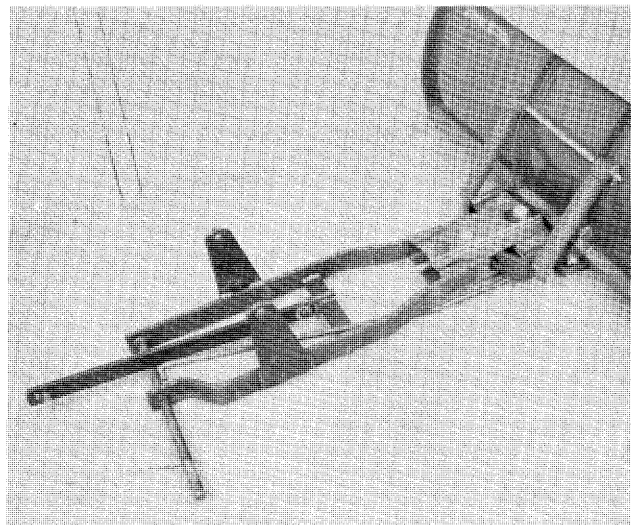

FIGURE 3
4. Assemble the end of the lift bar to the frame lift bracket as shown in figure 3. Secure with a $\frac{5}{8}$ " flat washer and hairpin cotter.